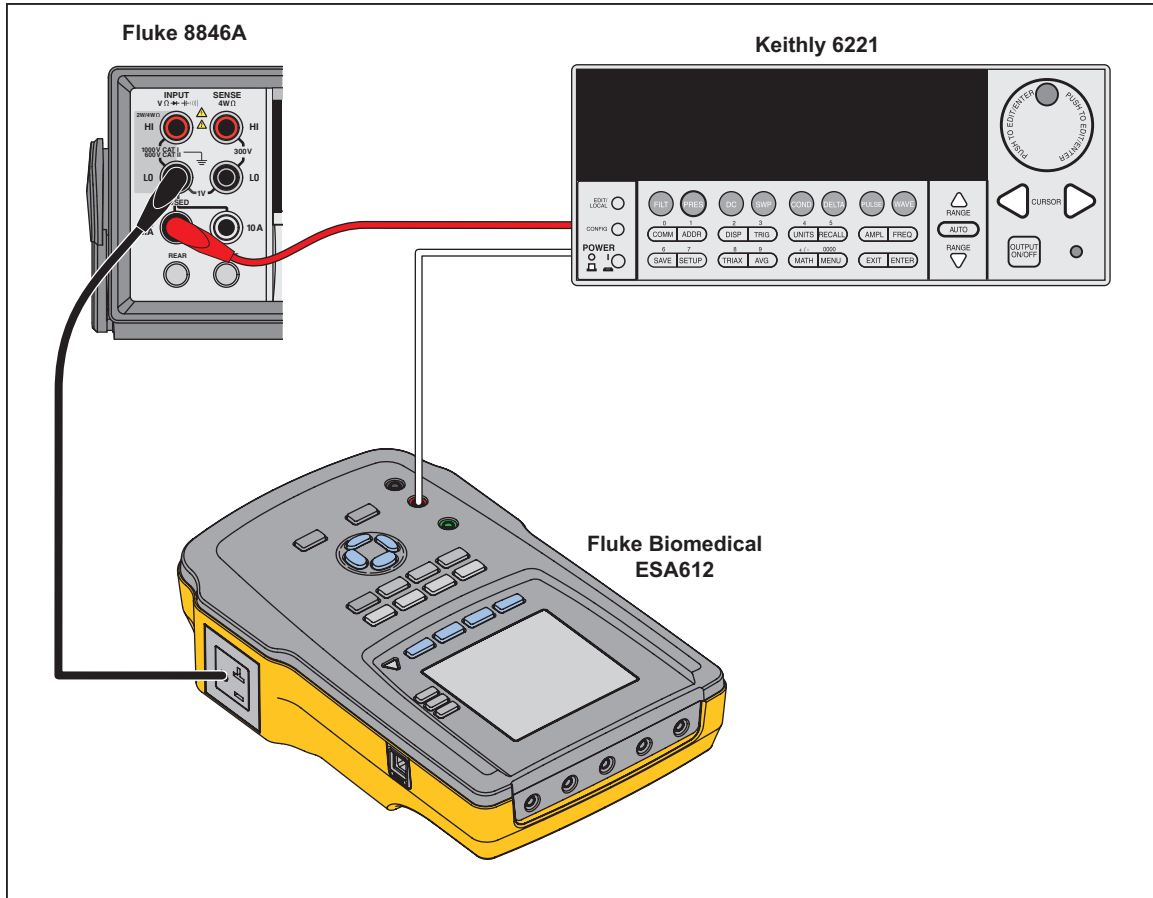

Figure 3-25. Direct Equipment Leakage, Enclosure Leakage: Ground to Red Connections
1. Move the lead from the RA applied part to the Red jack, the other end should still be connected to the DMM Input (-). The EO ground lead should still be connected to the current source. See Figure 3-25.